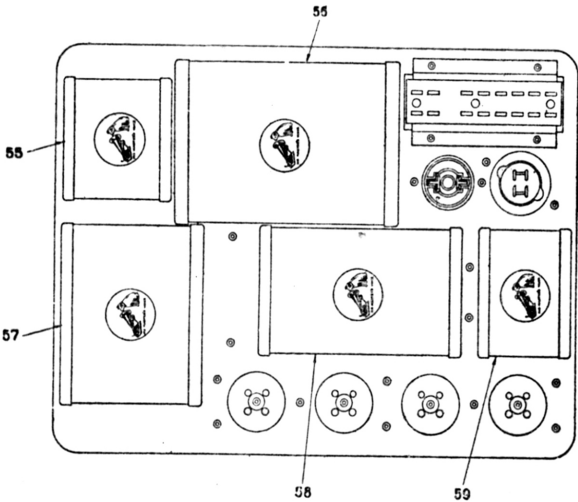

Fig. 2—Top View of Power Amplifier Unit, Showing Parts
- g. Shorted condenser in condenser bank, 56, Fig. 2, of power-amplifier unit.